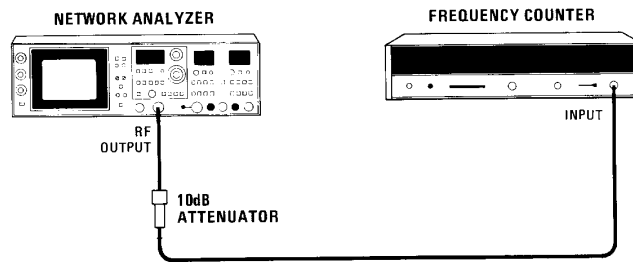

Figure 4-2. Marker Accuracy Test Setup
2. Connect equipment as shown in Figure 4-2.